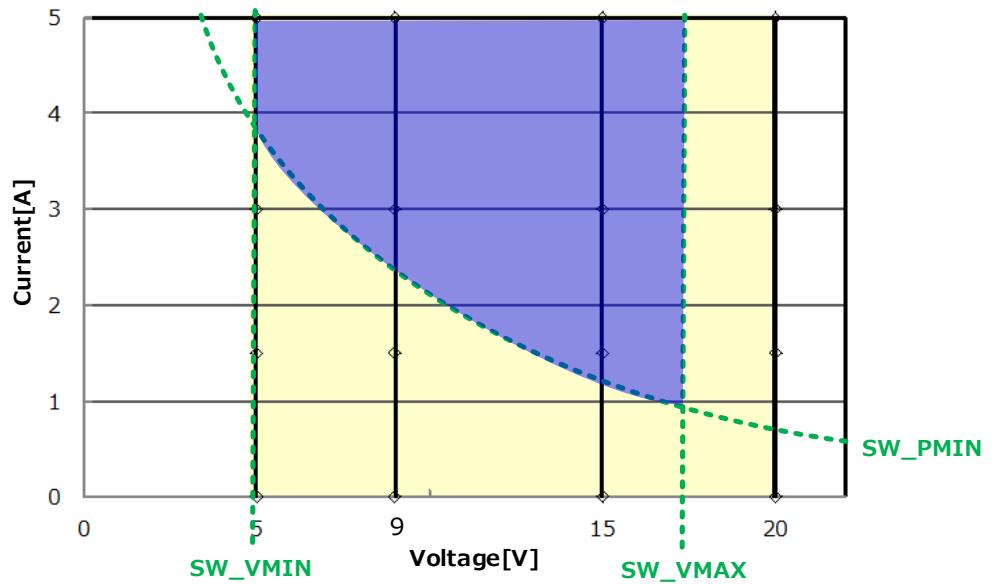

Figure 9. USB PD Contractable Range
3. Set SW\_VMAX, SW\_VMIN and SW\_PMIN according to required PD contract. Please refer to Figure 9 for further information.
This EVK can set the range of USB PD contract automatically according to SW\_VMAX, SW\_VMIN, SW\_PMIN DIP switch settings. The EVK can make a contract with a PD source that has a range within the "USB PD Contractable Range" shown in Figure 9. The EVK requires a power cycle to update the range assigned by SW\_VMAX, SW\_VMIN, and SW\_PMIN. A power cycle occurs by both disconnecting from a Source device and losing power from VSRC5V. If there is no VSRC5V, only disconnecting from a Source device is required.
Figure 9 shows the specific range by SW\_VMAX, SW\_VMIN, and SW\_PMIN that allows USB PD Contract.
For example, if the EVK SW\_VMAX is set to 12V and connected to the Source device specified in Figure 9, where the Source device does not have 12V as an option, then the contract with the EVK will be a PDO of 9V@3A.